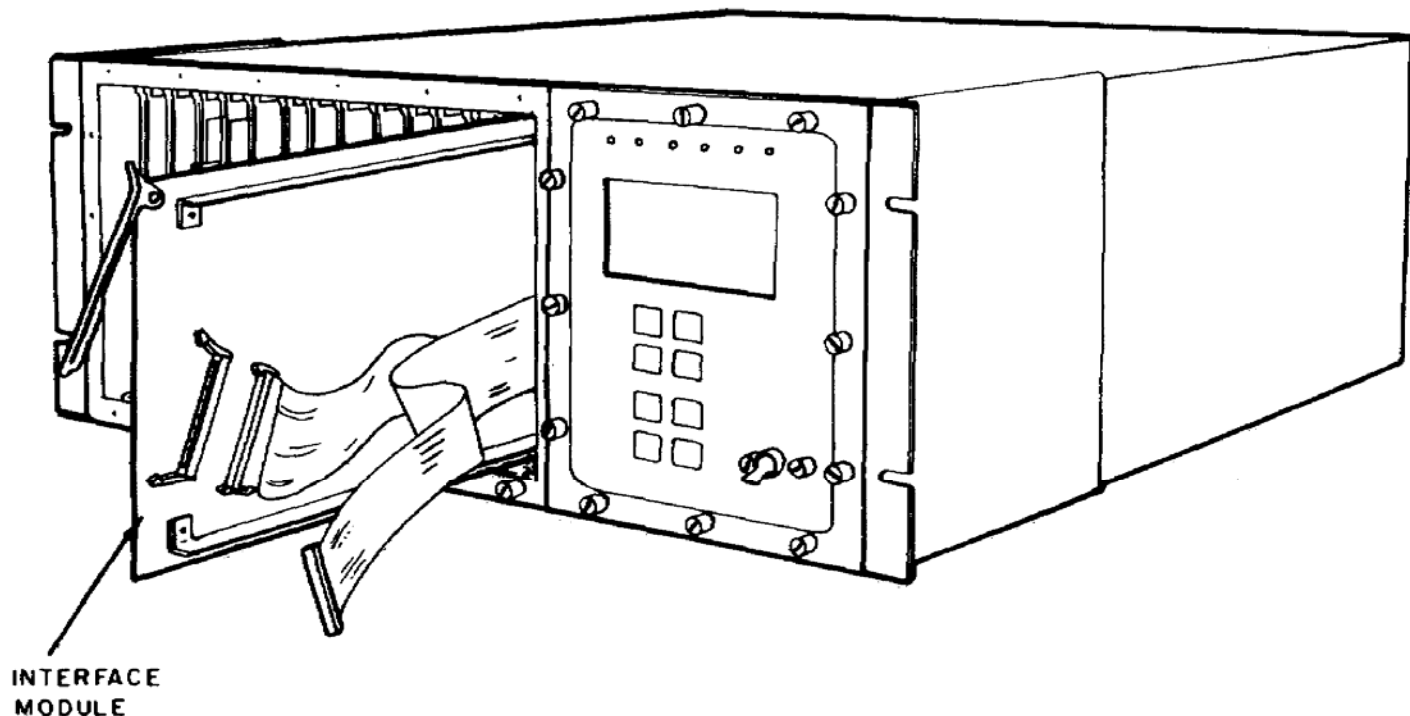

Figure 6. Removal of Interface Module.
- (a) Remove module access panel (see figure 6).
- (1) Interface module (see figure 6).